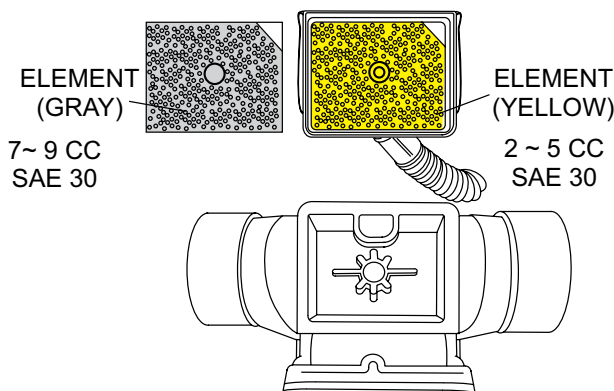

Figure 21. Primary Air Cleaner
- Remove the element from the pre-cleaner (Figure 21) at the top of the crankcase (body side) and clean it with cleaning oil (kerosene).